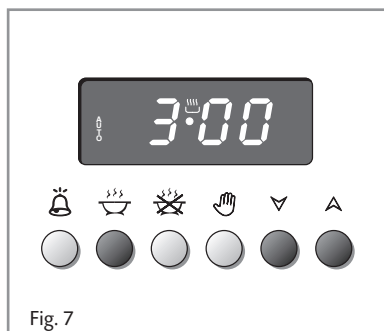

Fig. 7
1. Set the length of the cooking period by pushing the  button and the  button to increase, or  to decrease if you have passed the desired time (fig. 7). The AUTO and the  symbol will illuminate.